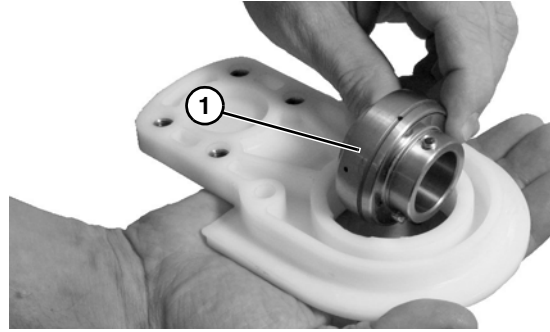

Figure 64
- Twist the bearing out (**Figure 64, item 1**).